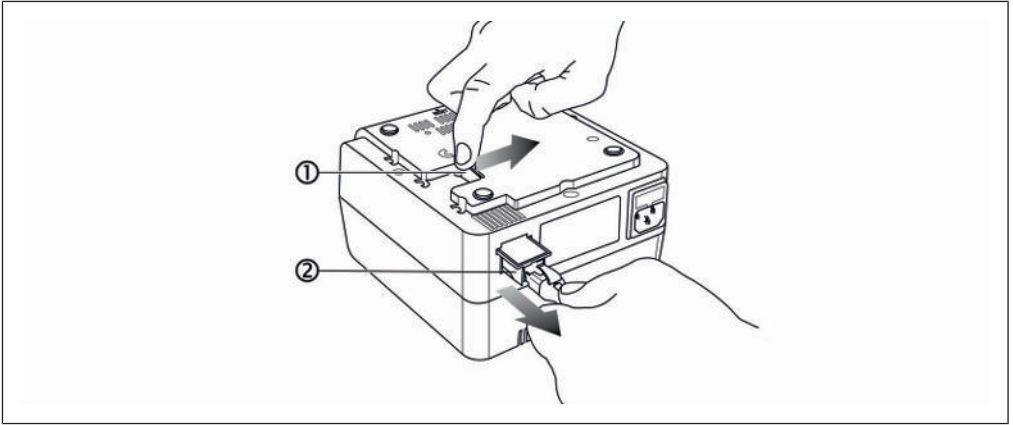

Fig. 18: Pulling out the Ethernet network card
- a) Double tap the soldering iron to turn off the heating element. While tapping, tilt the soldering iron slightly upwards (see Fig. 18).